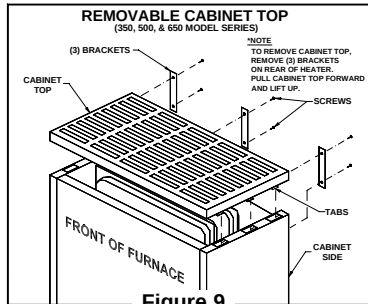

Figure 9
1. Remove three (3) brackets on rear of heater securing cabinet top to back plate.
2. Pull cabinet top forward and lift up. Reinstall cabinet top by reversing the procedures noted above. (Figure 9).